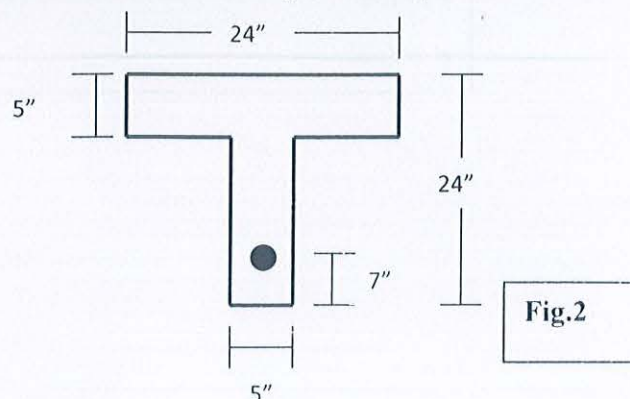

Fig.2
2. (a) The cross-section of a posttensioned simple beam on a span of 25 ft is shown in Fig. 2. The concrete used is lightweight concrete with a unit weight of 120 lb/ft³ in the beam. It also carries a uniform load of 635 lb/ft on top of its own weight. The initial prestress in the steel is 1,35,000 psi, reducing to 1,20,000 psi after deducing all losses and assuming no bending of the beam. The parabolic cable has an area of 2.5 sq in., $n=6$. Compute the stress in the steel at midspan, assuming: i) the steel is bonded by grouting ii) the steel is unbonded and entirely free to slip. [8+8]